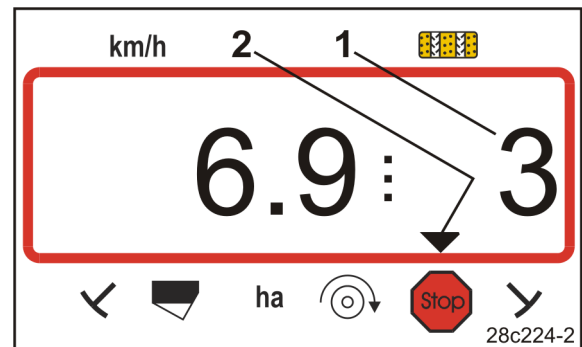

Fig. 23
- The number (Fig. 23/1) of the tramline counter flashes in the display.
- The control symbol (Fig. 23/2) marks the stop symbol.